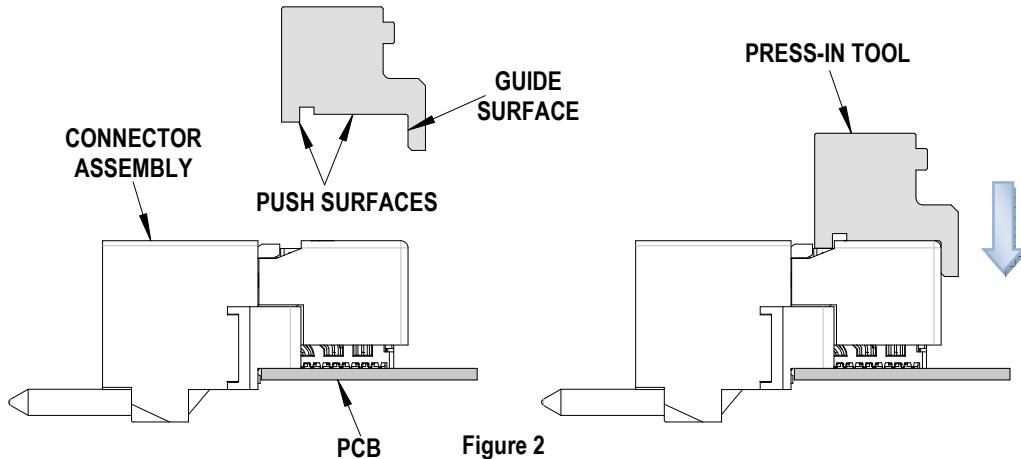

Figure 2
2. Place the application tool on top of the Orthogonal Direct Ram module with the back guide surface of the tool against the back of the Orthogonal Direct Ram module. See Figure 2.